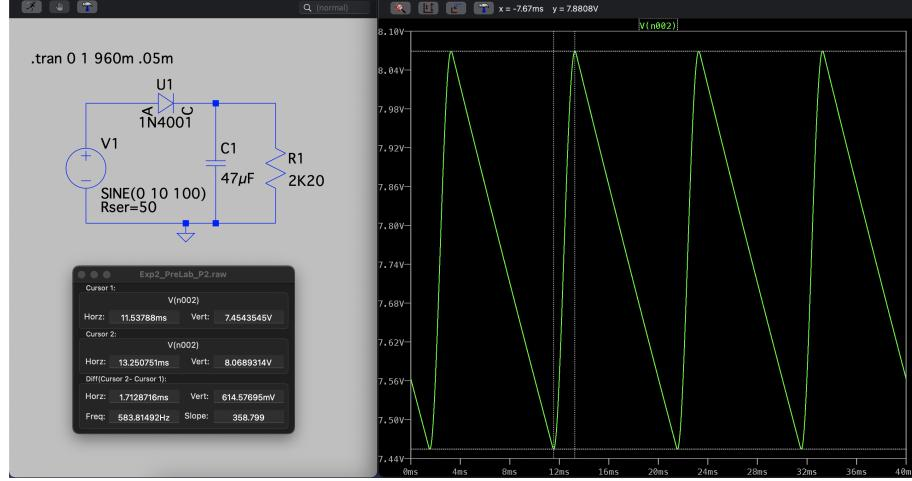
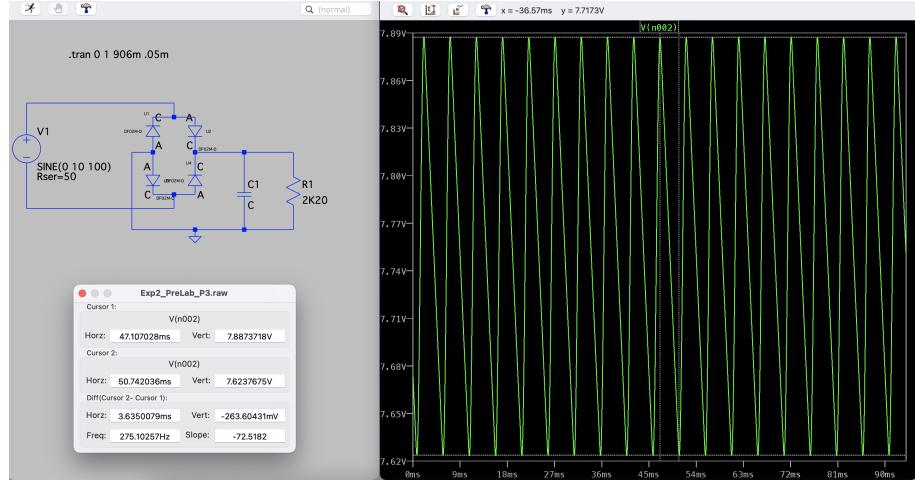

Figure 5: Ripple of the voltage
Figure 8: Ripple of the voltage
5. Figure 5 shows the ripple of the voltage at the load resistor. It is clearly seen that the ripple of the voltage is  $614.57mV$ . Using the formulas gives the following:
5. Figure 5 shows the ripple of the voltage at the load resistor. It is clearly seen that the ripple of the voltage is  $263.60mV$ . Using the formulas gives the following:
The half-wave rectifier contains a single diode. It means that only negative half-cycle of the input signal is blocked. Thus, the capacitor is not charged for almost the half period, resulting in a large ripple. On the other side, the full-wave rectifier passes negative signal by inverting it. It results of having two times more peak-to-peak ripple voltage. Figure 5 and Figure 8 gives that peak-to-peak voltage of the half-wave rectifier and full-wave rectifier are  $614.59mV$  and  $263.60mV$  respectively. Note that for half-wave it is almost two times more, as expected.